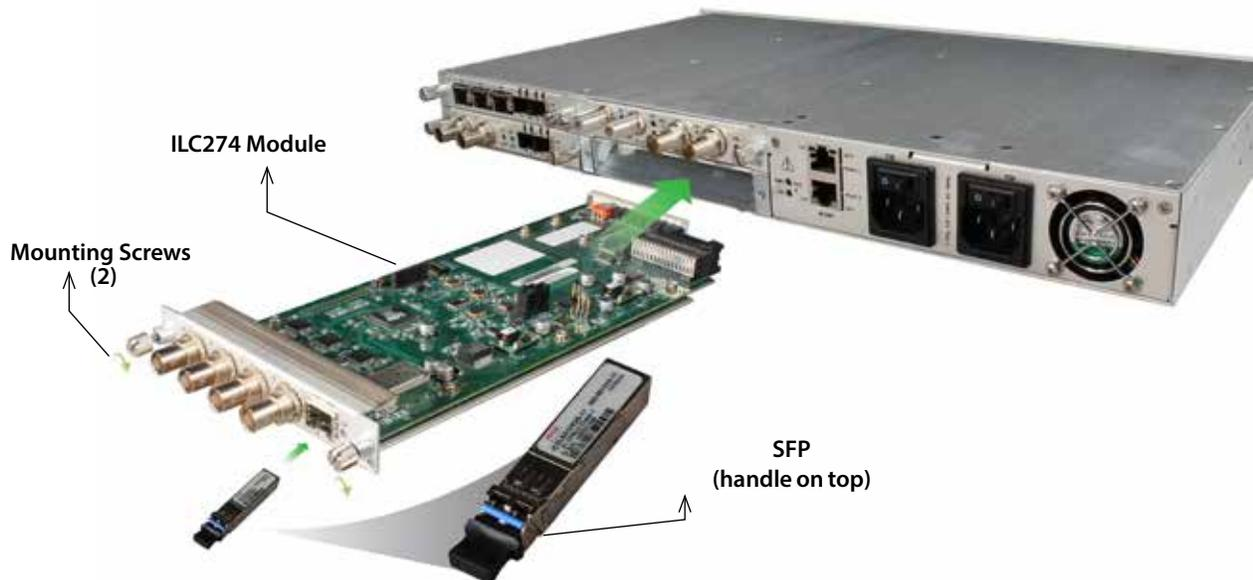

Figure 8. ILC274 Module and SFP Installation
To install a ILC274 in the IL6000 chassis (see Figure 8), perform the following steps:
5. Install the SFP into the ILC274 (handle on top as shown in Figure 8). Push the SFP into the socket located on the right side of the function module until it is firmly seated into the socket.